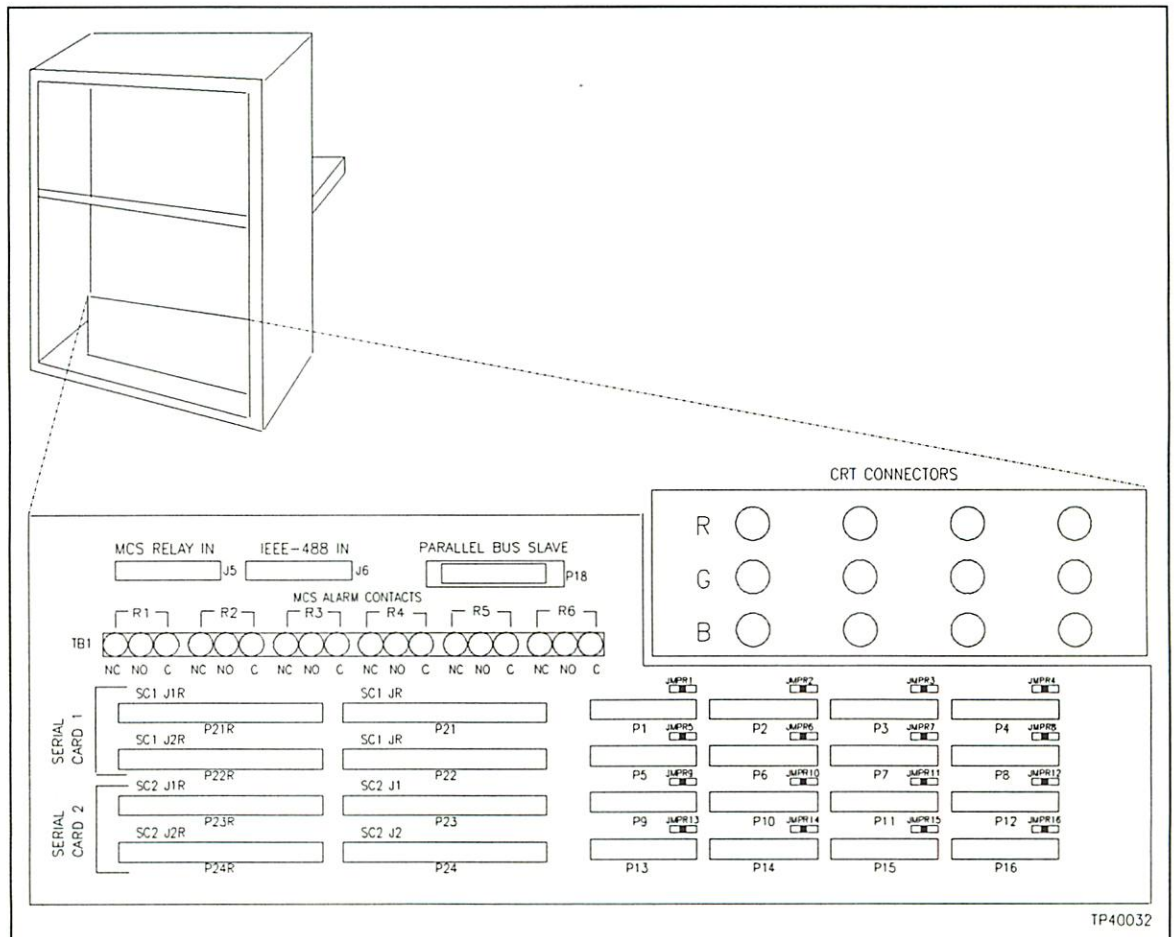

Figure 3-22. Location of I/O Distribution Board
The I/O distribution board, shown in Figure 3-22, provides the interface for all input and output devices associated with the MCS. Each port on the I/O distribution board is assigned an input or output device. Refer to Table 3-9 for the port assignments.
**NOTE:** Due to software enhancements, the assigned functionality of some RS-232 ports have changed. Figure 3-22 shows the correct port assignments. These may not agree with the actual labeling on the MCS.